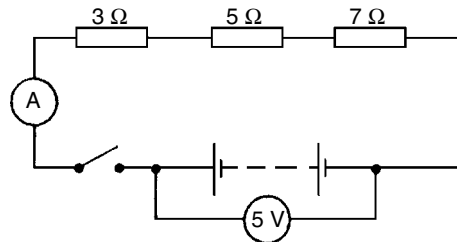

Figure 5.37
- With the switch in Fig. 5.37 closed, the ammeter reading will indicate: (a) 1 A (b) 75 A (c) $\frac{1}{3} \text{ A}$ (d) 3 A